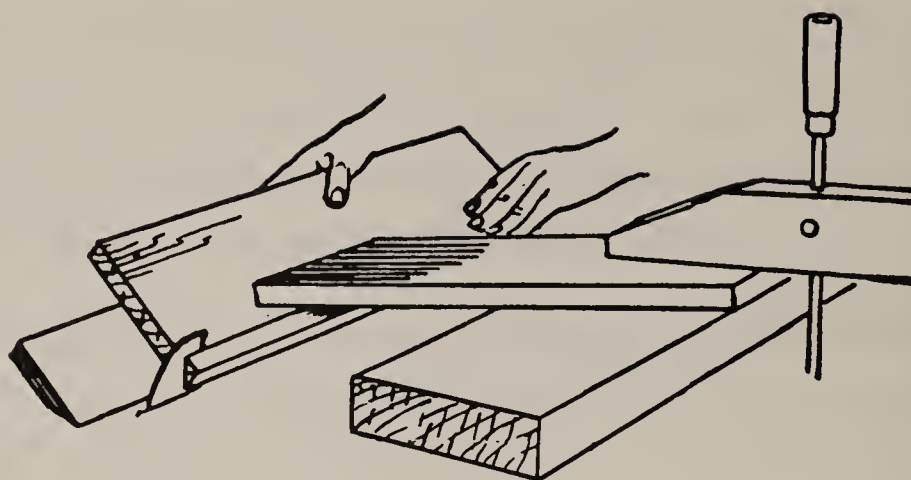

Fig. 9. Use of feather board when ripping stock at an angle.
- (b) Use a feather board as illustrated in Fig. 9. The feather board holds the stock against the fence and acts as a guard, protecting the operator from the saw blade; the latter is important because the saw guard cannot be in place for this operation. Raise or lower the feather board as required, by clamping different thicknesses of stock under it. A feather board can be made easily and quickly from a scrap board. The additional safety afforded the operator is well worth the small amount of time required to make a feather board.